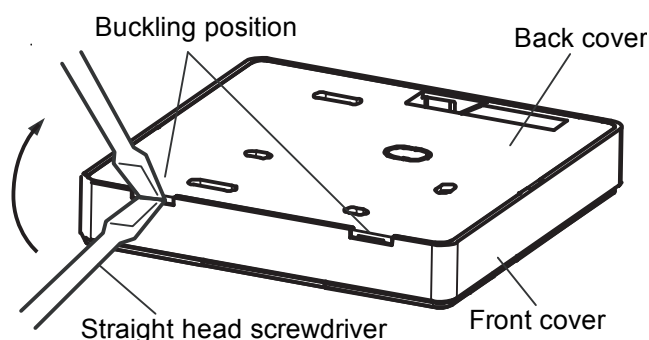

Fig.2
- Use straight head screwdriver to insert into the buckling position in the bottom of the wired controller, and spin the screwdriver to take down the back cover. (Pay attention to spinning direction, otherwise will damage the back cover!) (Fig.2)